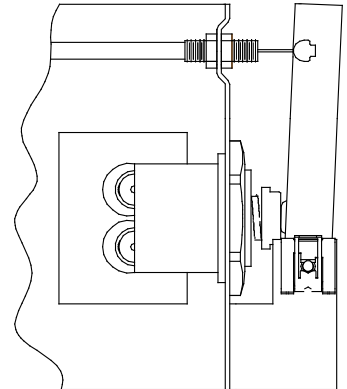

FIG. 6
See Fig. 6
3. Remove cable free play by adjusting the jam nuts on the ends of the operating cable. See Figure 6.